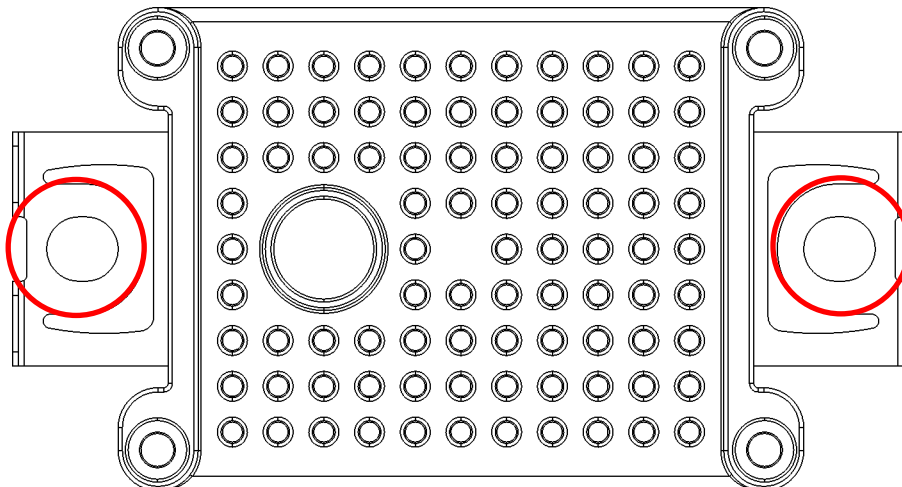
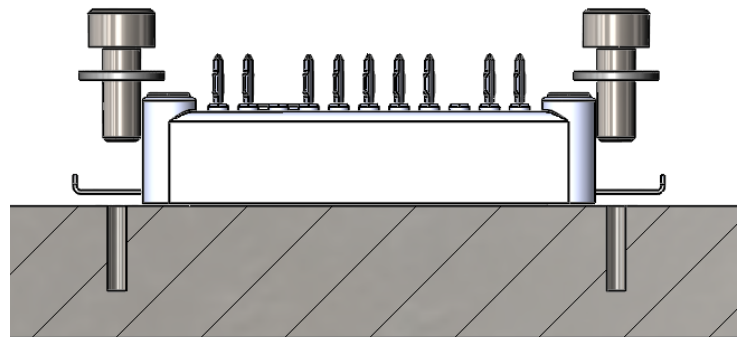

Figure 20. M4 screw mounting locations on FM module
Figure 21. Mounting Method 1
The module is attached to a heatsink using two M4 screws with the mounting locations as shown in Figure 20. When mounting the module, it is imperative that the module's mounting surface remain in full contact with the heatsink, as shown in Figure 21. If the module rocks to any one side during mounting, it is recommended that the user clean off the TIM and re-apply a new TIM print. The recommended mounting torque is 2 – 2.3 Nm. To ensure proper seating of the module while mounting, the user should choose one of the following methods to mount the module after centering the mounting tabs over the mounting holes. The mounting screw requirements are provided in Table 2.
**Method 1:** Insert both screws and tighten them simultaneously (Figure 21).